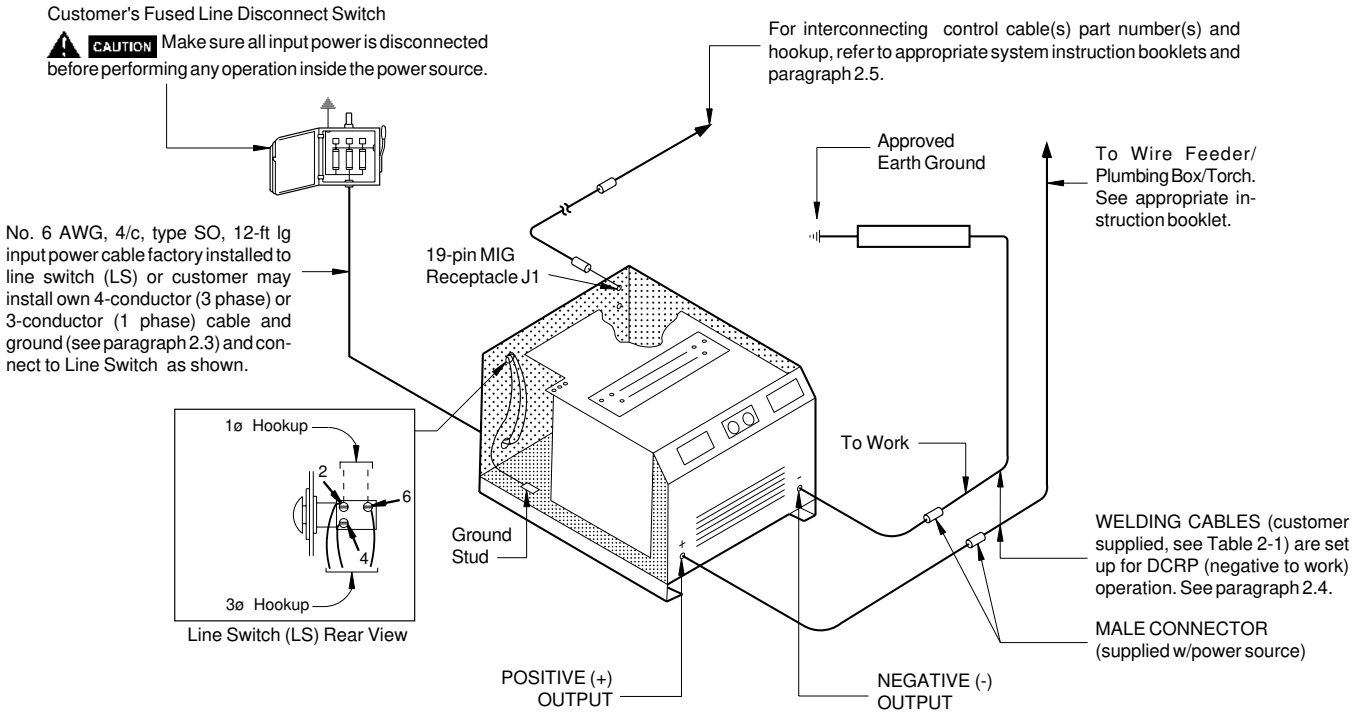
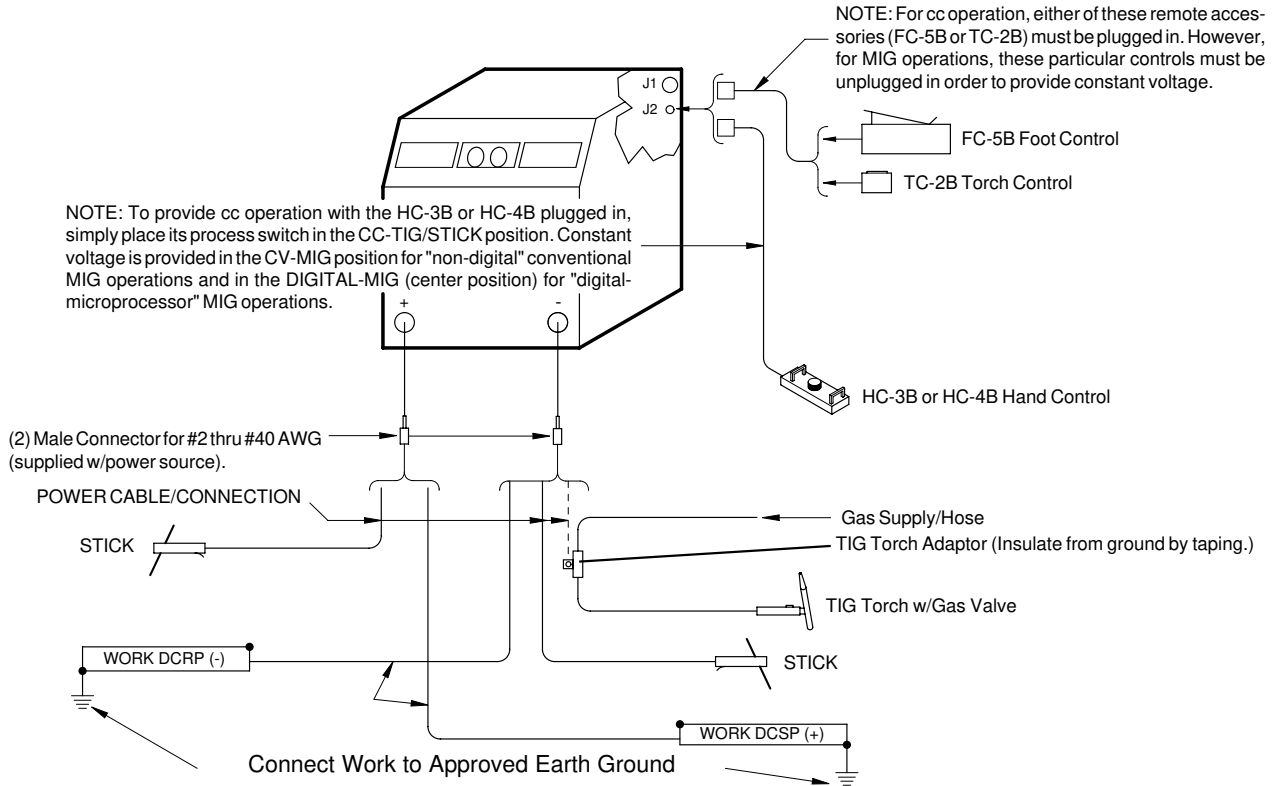

Figure 2-1. Input Power and MIG Interconnection Diagram
Figure 2-3. Stick/Scratch-Start TIG/Carbon Arc Gouging Interconnection Diagram
- B.** For applicable Stick/TIG accessories, refer to figure 2-3 and/or the following:
- A. A line (wall) disconnect switch, with fuses or circuit breakers, should be provided at the main power panel (see Figure 2-1). The customer may either use the factory-supplied input power cable (No. 6 AWG, 4/c, type SO (90 °C), 12-ft lg) or provide his own input power leads. The primary power leads should be insulated copper conductors and include two (1 phase) or three (3 phase) power leads and one ground wire. The wires may be heavy rubber-covered cable or run in a solid or flexible conduit. Refer to table 2-1 for recommended input conductors and line fuse sizes.
switch through the strain relief hole in the rear panel. Connect the primary leads to the Line Switch (LS) for either single- or 3-phase input and the ground lead (green) to the stud on the base of the unit as shown in figure 2-1. After making sure the connections are secured, tighten the strain relief coupling to secure the input cable.
- A. MIG Setup (see Figure 2-1).** This power source is designed to provide MIG welding operating characteristics only when the J2 control receptacle is "vacant" (meaning no accessories are plugged in) or, if the remote HC-3B or HC-4B hand control is plugged in. The process switch must be set in the CV-MIG position for conventional wire feeders or in the DIGITAL-MIG (center) position for Digimig/Digimatic controls. Additionally, proper operation of the power source depends on the use of copper output cables that are insulated, of adequate size, in good condition, and properly connected to the machine using the jack plug connectors provided with the power source. It is recommended that only 4/0 welding output cable be used, regardless of length and current, and that these cables be kept as short as possible. (Total length including work and electrode leads should not exceed 100 feet. Beyond this distance, there will be performance deterioration. Consult with the factory if you have an application of this nature.)
The welding output receptacles are located on the front panel; one negative (-) and one positive (+) receptacle. Two male plug connectors (P/N 950693) are supplied with the power source for attachment to customer supplied 4/0 welding cables (see Table 2-1 and Figure 2-1). This power source is designed for conventional and digital MIG applications using Direct Current Reverse Polarity (DCRP) setup. In a DCRP setup, the torch or electrode is positive (+), and the workpiece is negative (-).
- B. Stick/Scratch-Start TIG/ Arc Gouging Setup (see Figure 2-3).** These processes require constant current (cc) type curve characteristics for proper operation. These characteristics are only provided when one of the remote accessories (FC-5B, TC-2B) is plugged into the J2 receptacle or when the remote HC-3B or HC-4B hand control is connected to J2 and its process switch is set in the CC-TIG/Stick position. Select the desired welding mode, accessories, and polarity as shown in figure 2-3. The output cables may be connected for DCRP or DCSP; meaning that for a DCRP setup, the electrode holder/torch is POS (+) and the work is NEG (-); whereas for a DCSP setup, the electrode holder/torch is NEG (-) and the work is POS (+).
Please note that all control cable functions for MIG operations must be connected through control receptacle J1 (19-pin amphenol) on the rear panel (see Figure 2-1). Additionally, if remote voltage control for "non-digital" conventional feeder/controls (only) is desired, you can also plug in the HC-3B or HC-4B hand control accessory to Remote Control receptacle J2 to provide this function (see paragraph 2.6).
- B.** For Stick, TIG, or Arc Gouging operations (see Figure 2-3). These processes require constant current (cc) characteristics for proper operation, and this is only provided when one of the remote control accessories (FC-5B or TC-2B) is connected to receptacle J2, or when the HC-3B or HC-4B hand control is connected to J2 and its process switch is set in the CC-TIG/STICK position. Note that the power source's Panel/Remote switch must be set to REMOTE to provide current regulation and/or contactor control at the welding location. When the FC-5B foot or TC-2B torch accessory is connected, full-range current regulation and contactor control are available from the remote accessory.
H. Digital MIG Control Receptacle (J1). This 19-pin remote control receptacle receives a mating connector from the MIG/Digimig wire feeder or other mechanized MIG controls (see Figure 2-1).
I. TIG/Stick Control Receptacle (J2). This 8-pin remote control receptacle, located on the rear panel, receives a mating connector from the remote control accessories (see Figure 2-3).
J. Reset Circuit Breaker (CB). A 10-ampere circuit breaker (on the rear panel) provides protection to the 115-volt control circuit. If an overload occurs, the breaker will trip and suspend all operation. To restore service, depress the breaker button to reset the circuit.
L. Welding Output Receptacles. Two output receptacles are located on the front panel — one negative (-) and one positive (+). Refer to figures 2-1 and 2-3.
1. Depending on the process being used, make all secondary output connections to the power source output receptacles (see Figure 2-3).
2. Connect appropriate control accessories to receptacle J2 (see Figure 2-3).